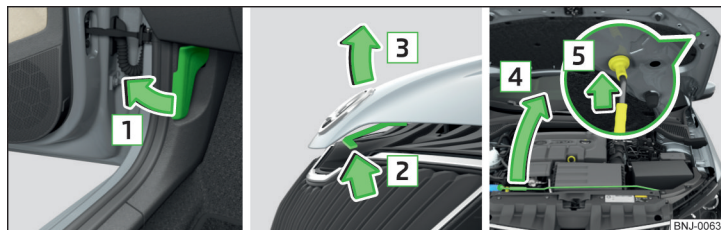

Fig. 167 Opening the bonnet
- Open the front door and pull the release lever below the dash panel in the direction of arrow **1**» Fig. 167.